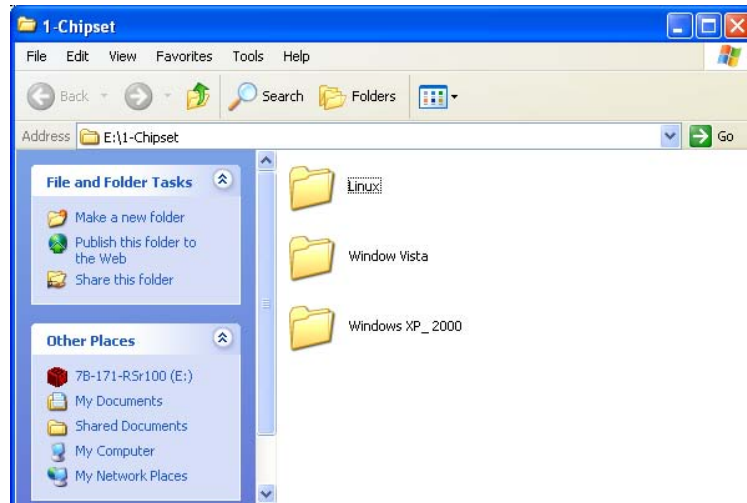

Figure 8-3: Select OS for Chipset Driver Installation
Step 2: A new window opens (**Figure 8-3**).